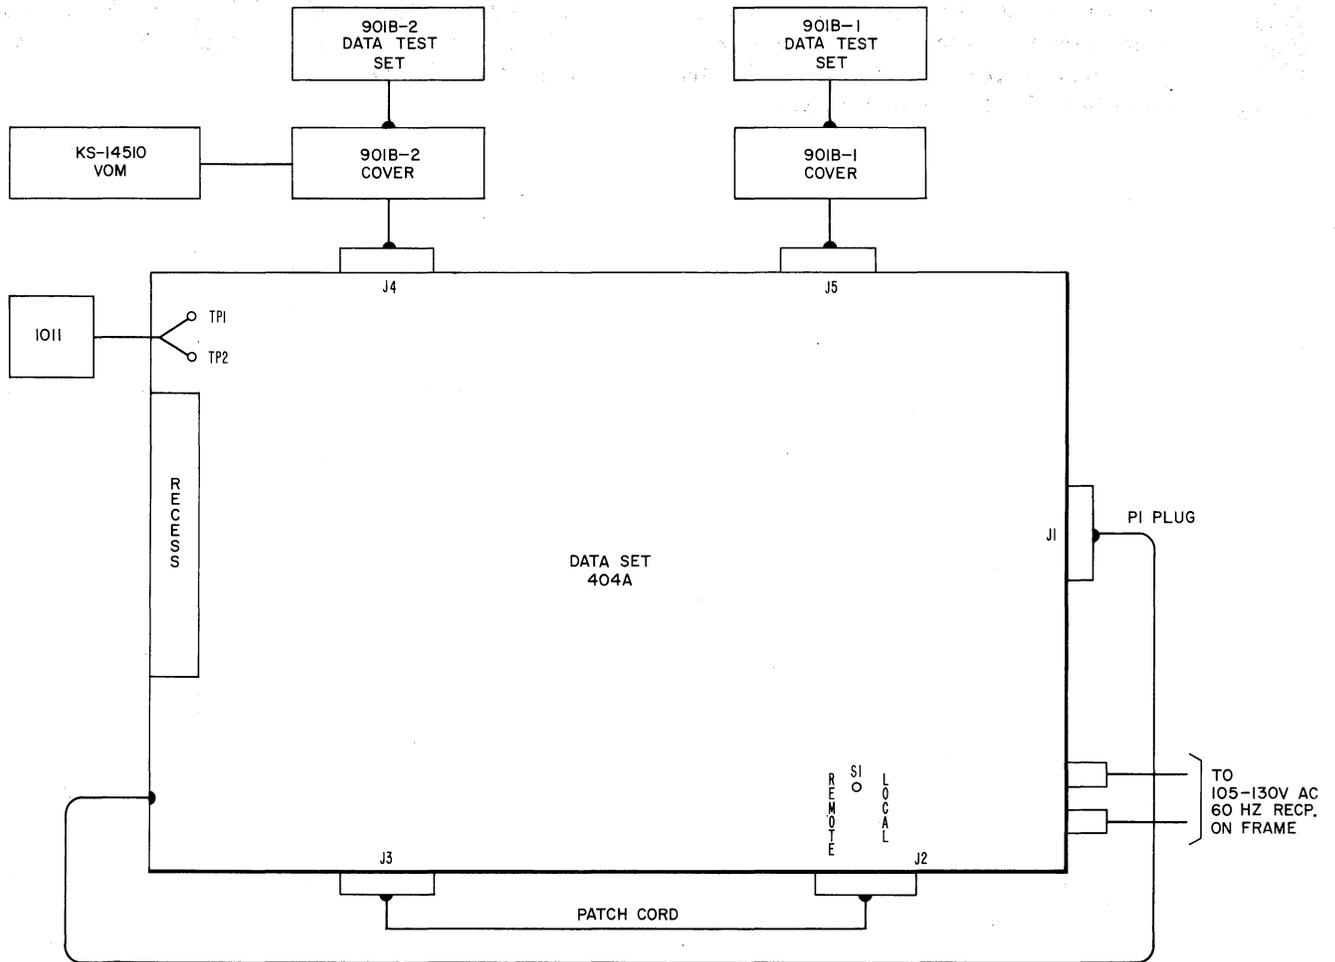

Fig. 1—Cord Arrangement For Installation Test
4.01 If additional testing is required at the time of installation, refer to the tests in Table A and Table B. Figure 1 shows the cord arrangement for testing per Table A. The same cord arrangement is used for Table B except for the removal of the patch cord between J2 and J3.
4.02 For clarity, the two 901B DTS's and covers shown in Fig. 1 are labeled No. 1 and No. 2. For further information pertaining to the 901-type DTS's, refer to the section entitled 901A and 901B Data Test Sets, Identification and Operation (107-100-100).